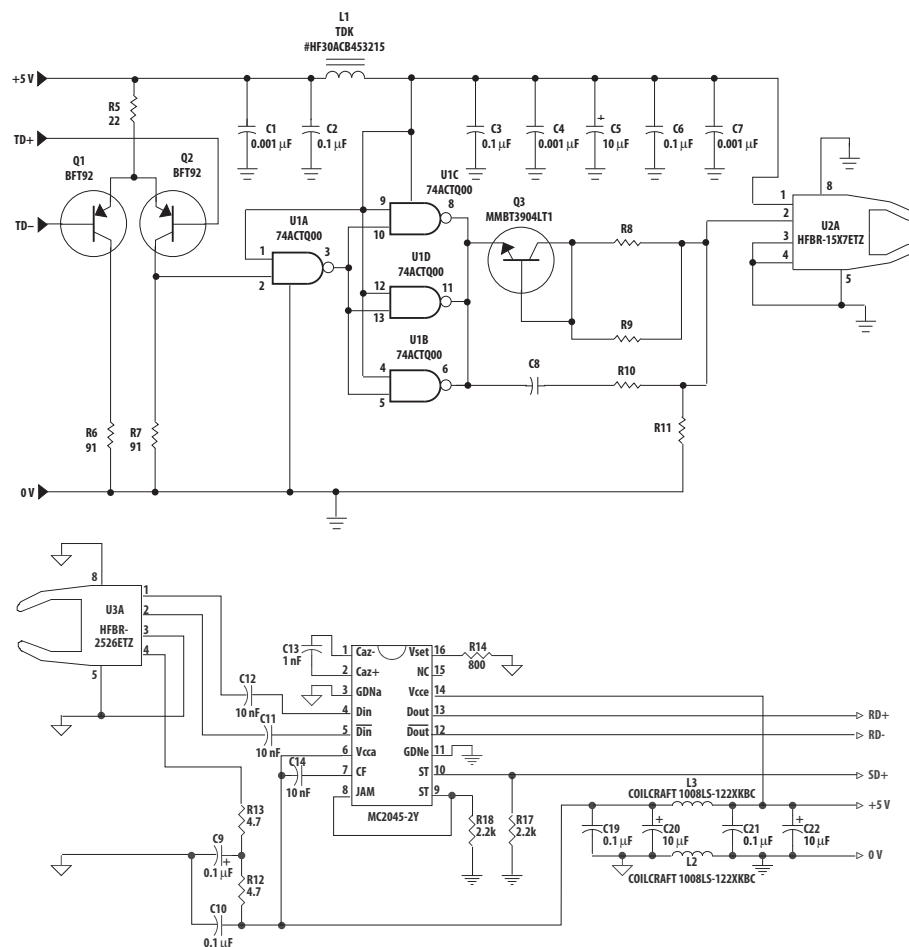

Figure 1. Transmitter and receiver application circuit with +5 V ECL inputs and outputs.
Data link operating conditions and performance are specified for the HFBR-1527ETZ transmitter and HFBR-2526ETZ receiver in the recommended applications circuits shown in Figure 1. This circuit has been optimized for 125 MBd operation. For other data rate application, please refer to application notes: AN1121, AN1122 and AN1123.
Recommended Operating Conditions for the Circuits in Figures 1 and 2
1. If the output of U4C in Figure 1, page 4 is transmitted via coaxial cable, terminate with a 50 Ω resistor to V_{CC} - 2 V.
Performance of the HFBR-1527ETZ transmitter in the recommended application circuit (Figure 1) for POF; 1-125 MBd, 25° C.
| Transmitter Application Circuit Current Consumption – 1 mm POF | I _{CC} | 110 | mA | | Figure 1 |
Performance of the HFBR-1527ETZ transmitter in the recommended application circuit (Figure 1) for HCS; 1-125 MBd, 25° C.
| Transmitter Application Circuit Current Consumption – 200 μm HCS | I _{CC} | 130 | mA | | Figure 1 |
Performance^[4] of the HFBR-2526ETZ receiver in the recommended application circuit (Figure 1); 1-125 MBd, 25° C unless otherwise stated.
| Receiver Application Circuit Current Consumption | I_{CC} | TBA | mA | $R_L = \infty$ | Figure 1 |
| Unpeaked Optical Rise Time, 10% – 90% | t_r | | 10 | | ns | $I_F = 60 \text{ mA}$ $f = 100 \text{ kHz}$ | Figure 1 Note 5 |
| Unpeaked Optical Fall Time, 90% – 10% | t_f | | 11 | | ns | $I_F = 60 \text{ mA}$ $f = 100 \text{ kHz}$ | Figure 1 Note 5 |
Electrical/Optical Characteristics -40 to 85° C; 5.25 V ≥ V_{CC} ≥ 4.75 V; power supply must be filtered (see Figure 1, Note 2)
- The signal output is an emitter follower, which does not reject noise in the power supply. The power supply must be filtered as in Figure 1.